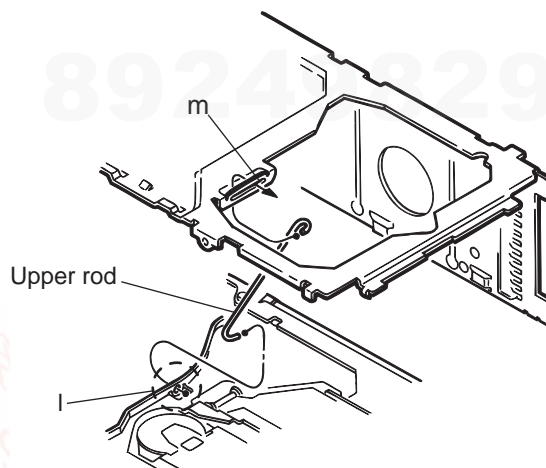

Fig.30
3.2.13.4 Mounting the top plate (See Fig.30 to 33)